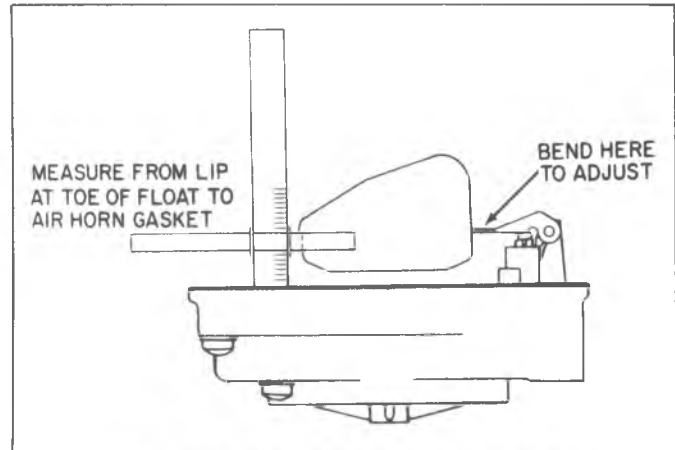

Fig. G9--Float Level Adjustment (Nitrophyl)
1. With air horn inverted, gasket in place and needle seated, measure distance from lip at toe of float to air horn gasket. Adjust float to specifications by bending float arm at point shown. (Figure G9).